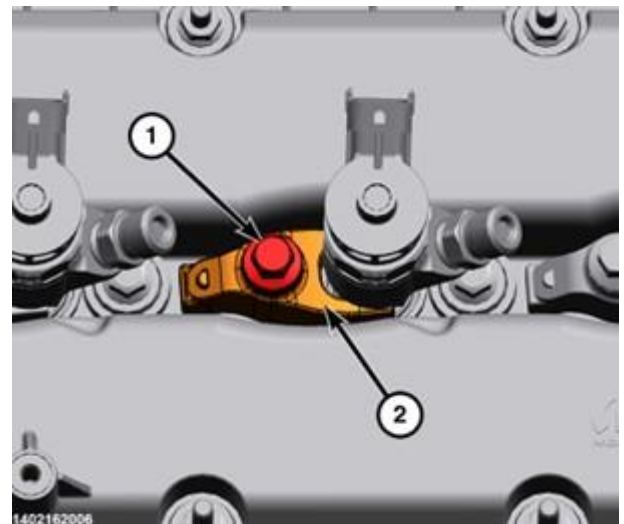

Figure 143– Fuel Injector Bolt and Clamp
- 95. Install the fuel injector clamp (2) and tighten the bolt (1) to 33 N-m (24 ft. lbs.) (Figure 143).